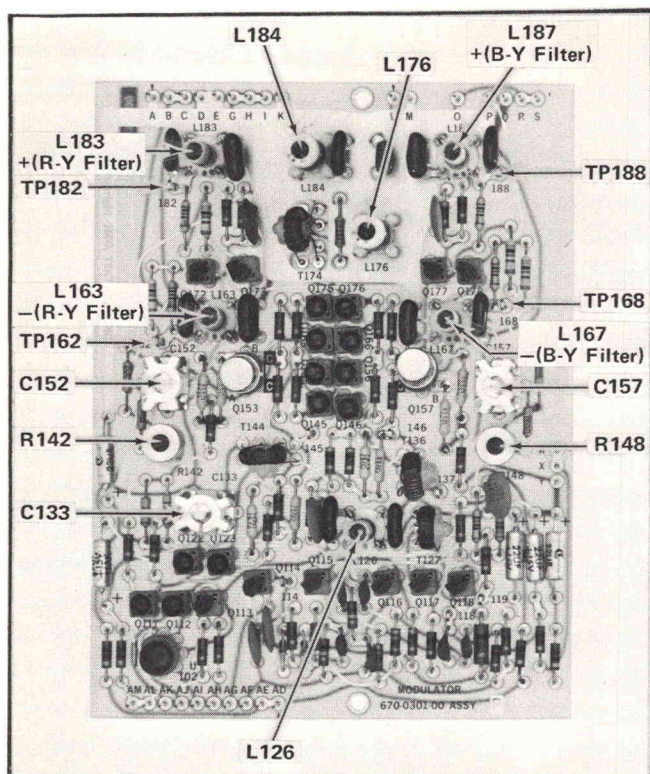
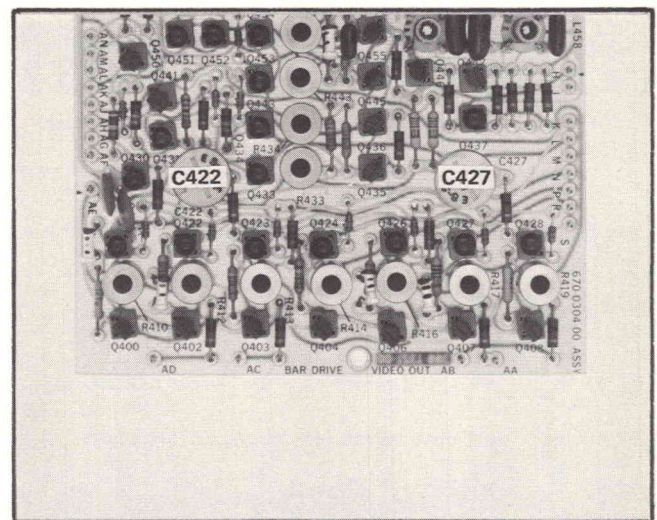

Fig. 5-14. Modulator board adjustment and test point locations.
Fig. 5-19. Bar Drive and Video Out board adjustment locations.
- d. Connect the 10X probe tip to TP188 on the Modulator board (see Fig. 5-14).
g. **ADJUST—C157, R148, C152, and R142, (see Fig. 5-14) for minimum peak-to-peak chrominance on the blanking level.**
f. **ADJUST—C133** (see Fig. 5-14) until the requirement of part e is met.
e. **ADJUST—L126** (See Fig. 5-14) for best color bar overlay; must be within 10 mV. (See Fig. 5-17B for improper display.)
f. **ADJUST—C422** (see Fig. 5-19) and Readjust L163 (see Fig. 5-14) for minimum 3.58 MHz aberration between burst and the first color bar.
h. ADJUST—C427 (see Fig. 5-19) and Readjust L167 (see Fig. 5-14) for minimum 3.58 MHz aberration between burst and the first color bar.
f. ADJUST—L176 and L184 (see Fig. 5-14) for (1) best green-magenta transition; (2) best square corner on the magenta chrominance; (3) best overlay of the displays. (See Fig. 5-20B.)